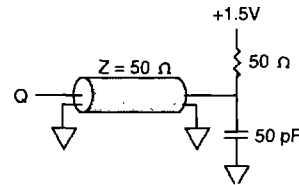

Figure 4
- AC output loading is specified with  $C_L = 50pF$  as in Figure 4. Figure 5 is shown for reference. Transition is measured at the 1.5V reference level.